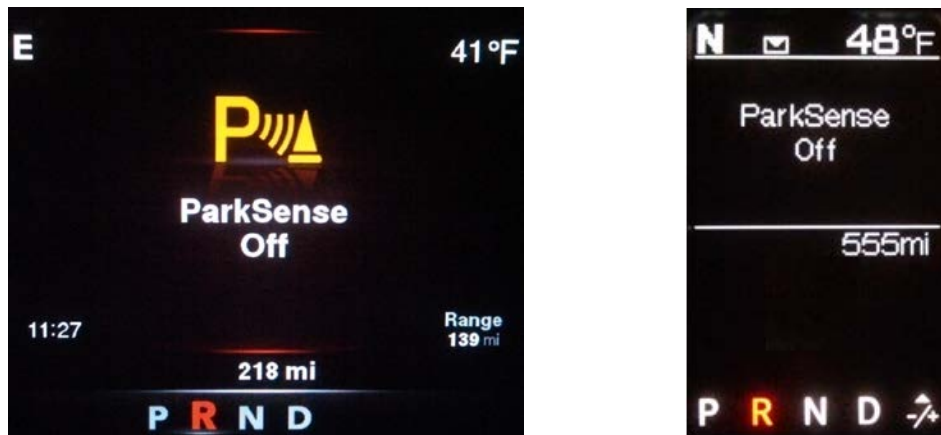

Figure 15: Cluster Image for ParkSense Off
- With the object still detected, put the vehicle in park and press the appropriate ParkSense button (front or rear). Watch for the indicator light on the ParkSense button **Figure 11** to illuminate and the instrument cluster to display “ParkSense Off” **Figure 15**. Now shift the vehicle back into reverse and confirm that **Figure 15** is shown in the instrument cluster. Once confirmed, put the vehicle back in park and press the button again to turn ParkSense back on.